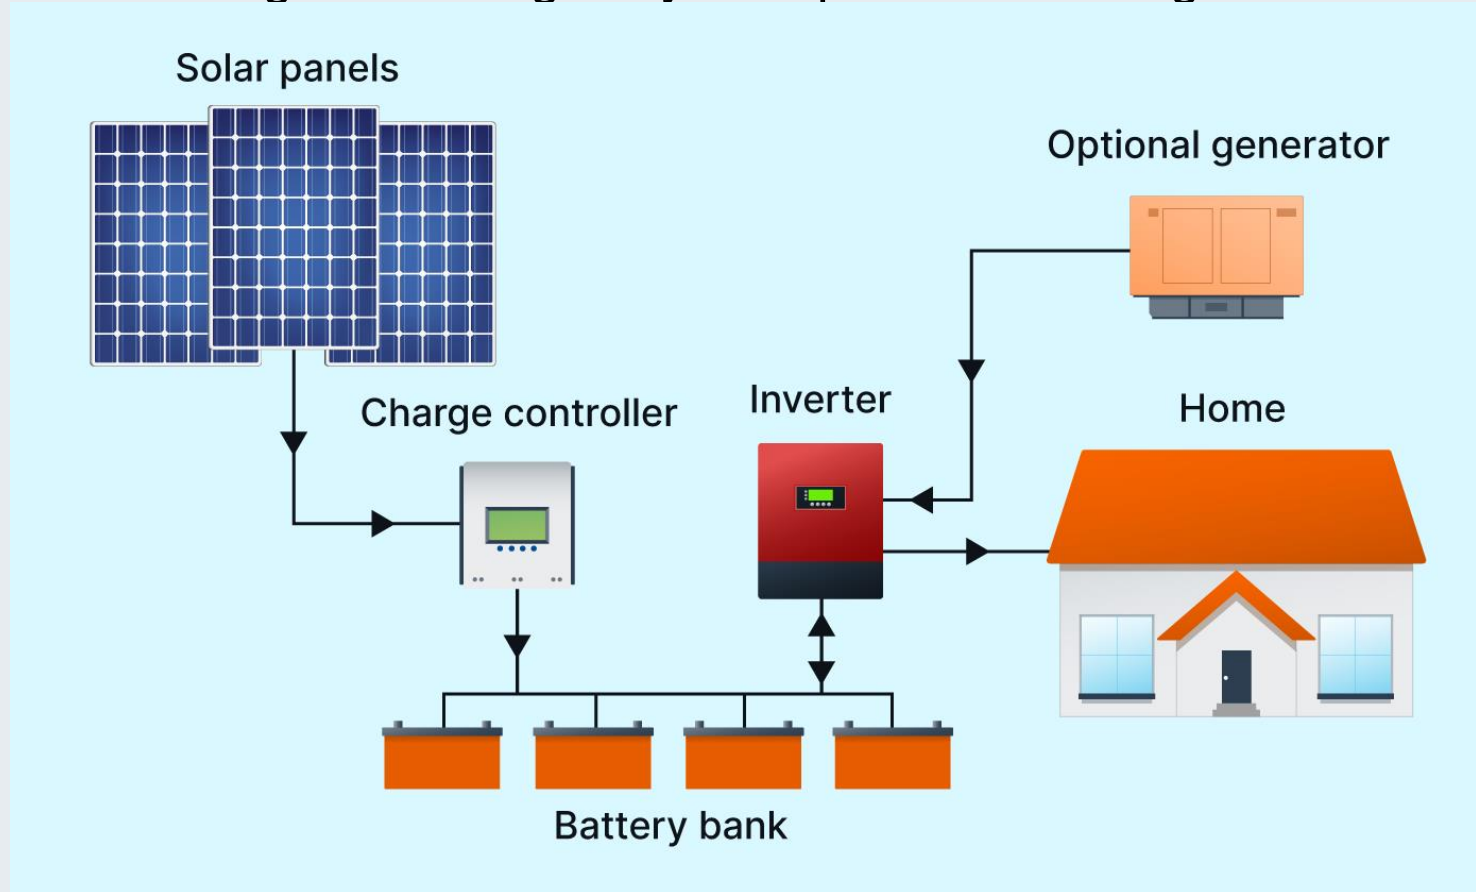
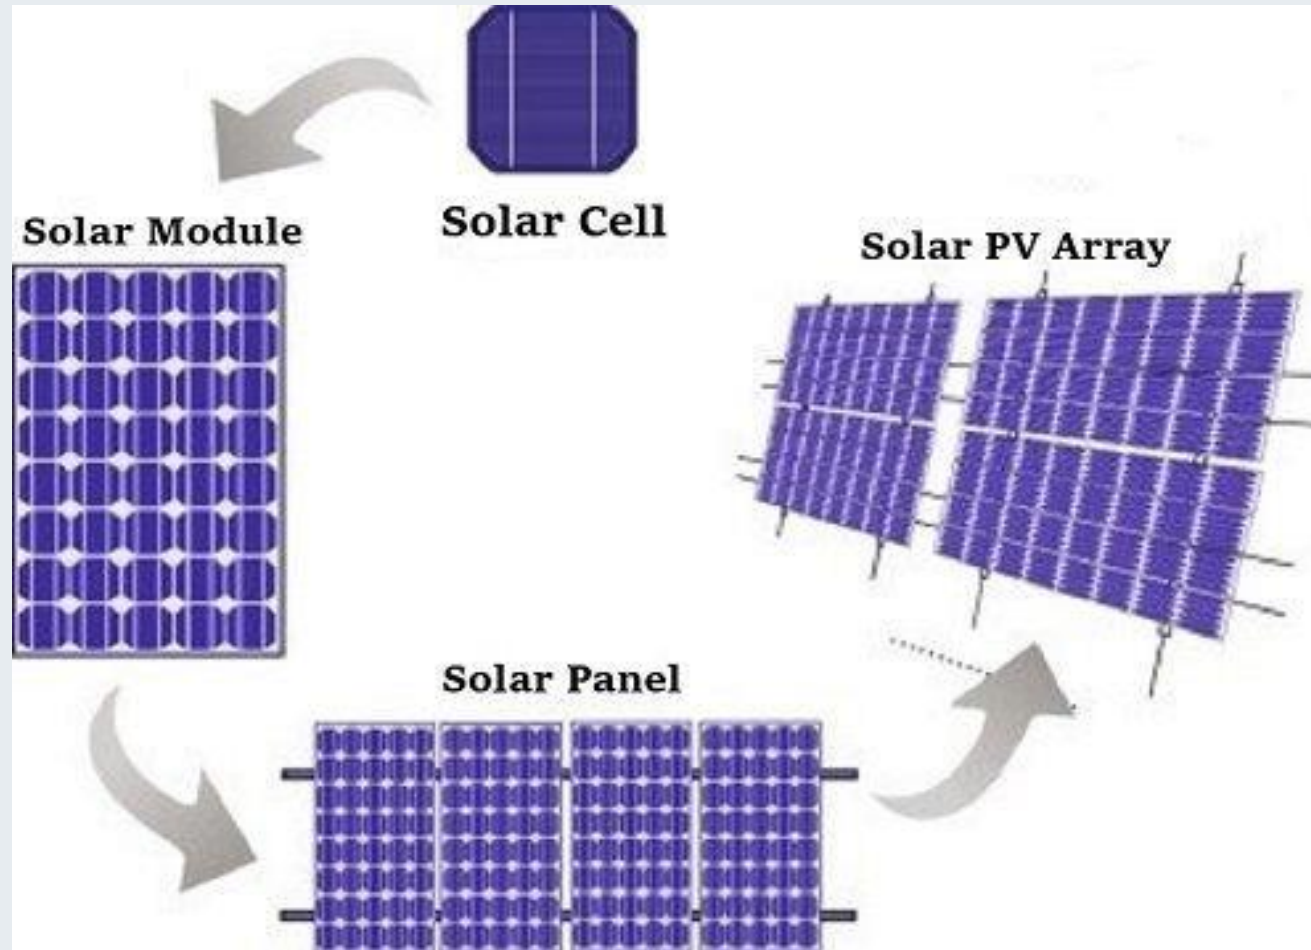

Figure 1. The stand alone off-grid system.
Figure 2. The solar photovoltaic (PV) array configuration.
- The simple block diagram of off grid system presented in Fig.1.
- Fig.1 shows the configuration of a system that provides DC & AC power to the demands.
- Direct current (DC) is produced by off-grid solar panels by absorbing and retaining sunlight.
- Solar panels, also known as photovoltaic (PV) panels, are gadgets that harness solar radiation to power your house.
- Since a typical silicon solar cell may only produce about 0.5 volts, many cells are connected in series to form larger units known as PV modules, as shown in Fig. 2.
- *When number of module is connected in series, it is called a PV string/Panel as presented in Fig.2.*
a. **solar array** is made up of several parallel PV strings, which is given in Fig.2.